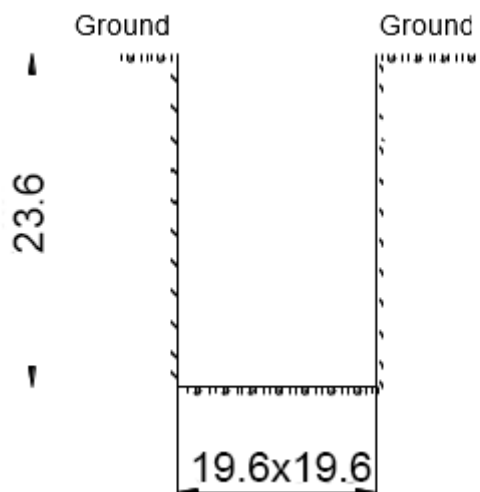

Figure 16
- ② As shown in figure 16, dig light pole hole, 19.6 inches * 19.6 inches * 23.6 inches;